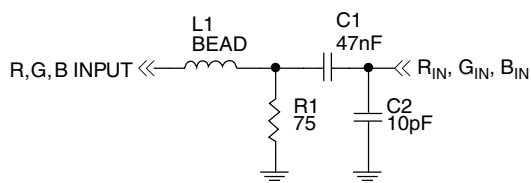

Figure 25. RGB Input Filter Options
5. If necessary, limit bandwidth by adding a ferrite bead in series with each RGB input as shown in Figure 25. A Fair-Rite #2508051217Z0 is recommended. Alternatively, bandwidth reduction using a shunt 10pF capacitor may reduce snow (intensity noise) caused by HF noise riding on the RGB input. Mismatches, reflections and noise may cause ringing or distortion of the incoming video signals.